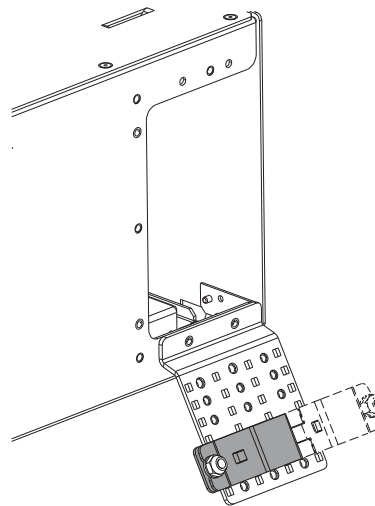

Figure 7 — Install Strain-relief Bracket Directly to Housing
**Step 2:** If installing outside plant cable, remove the membrane from the appropriate entry grommet (Figure 7).
**Step 3:** If installing indoor cable, remove appropriate cable entry plate as shown in Figure 7.
**Step 4:** Attach the UCC clamshell to the strain-relief bracket as shown in Figure 6 and Figure 7 to allow installation of a second UCC if necessary.